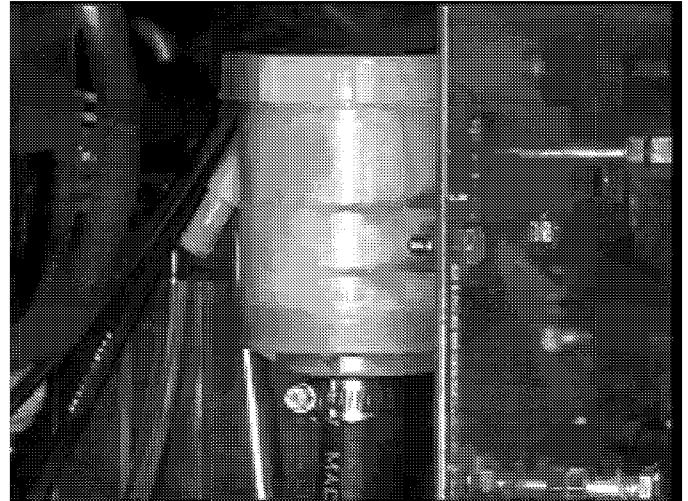

Figure 10 (Eaton transmission only)
Refer to Figure 10 for checking the transmission fluid.
Refer to Figure 10 for priming the transmission.
7. Stroke the control lever forward for five seconds and then reverse for five seconds. Do this three times in each direction. Figure 10 and 11